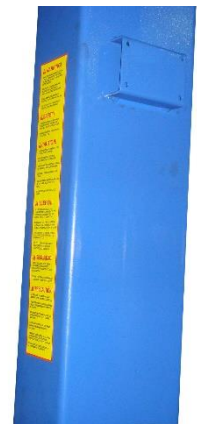

Fig. 5
2. Now determine which side you prefer the power unit to be located on. The MAIN column has the power-unit mounting bracket attached to the side, as shown in (Fig. 5).